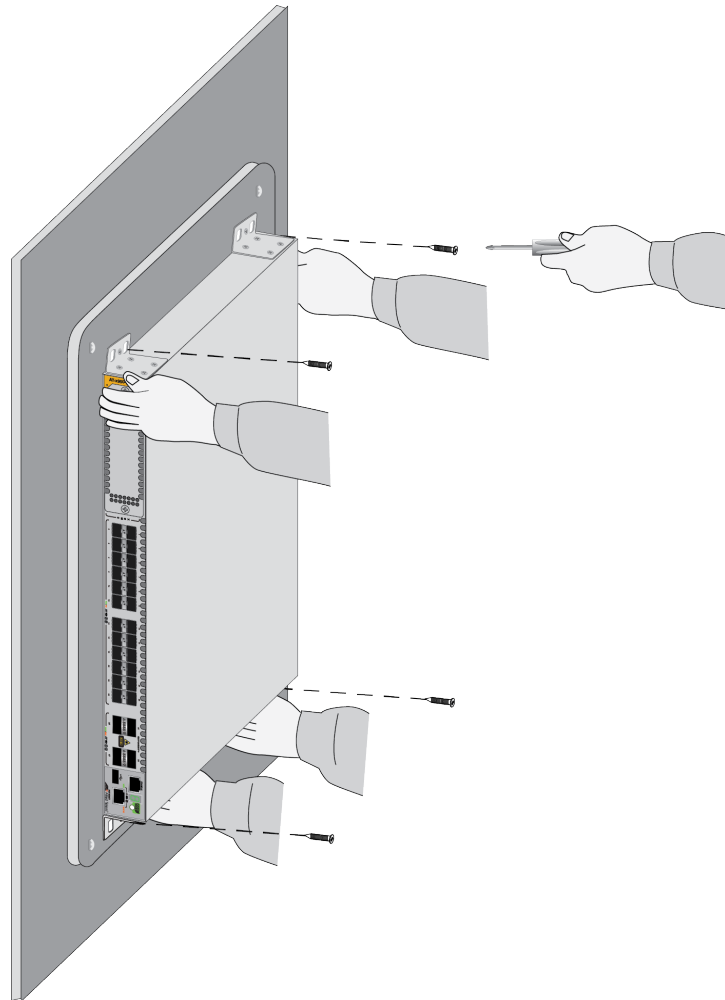

Figure 95. Attaching the Switch to the Plywood Base
3. After attaching the brackets to the side of the switch, have two people hold the switch on the plywood base on the wall while you secure it with the four provided screws. Refer to Figure 95.